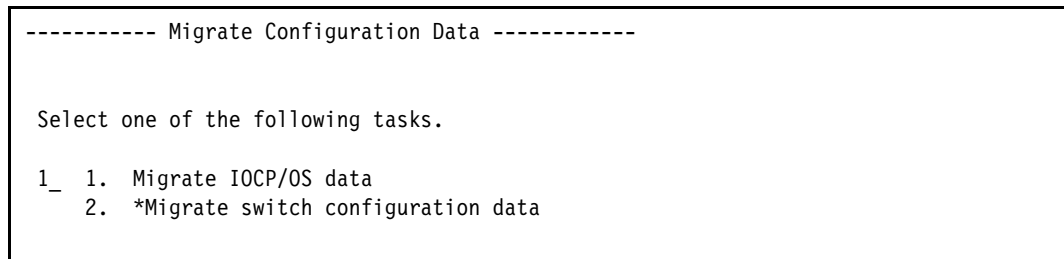

Figure 5-109 HCD - Migrate Configuration Data: migrate IOCP/OS data.
- From the Migrate Configuration Data panel (Figure 5-109), select option **1. Migrate IOCP/OS data** and press Enter.